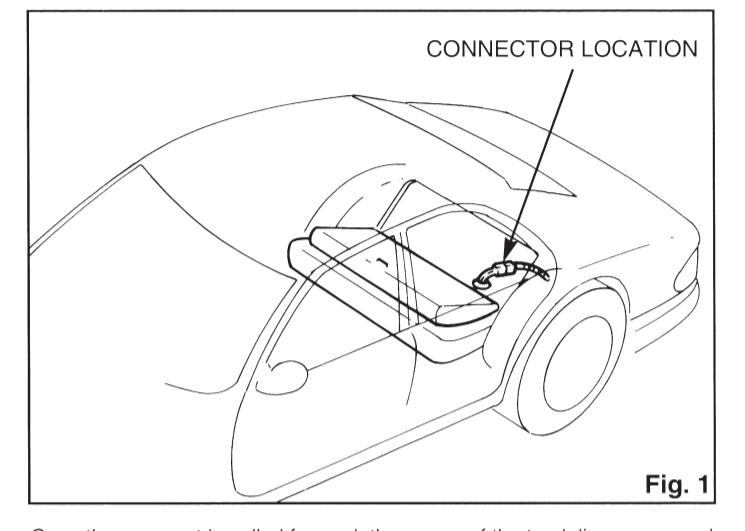

Fig. 1
A) Before raising the vehicle, an electrical connector located behind the rear seat on the driver's side and through the trunk sheet metal panel, must be disconnected (see Fig. 1).